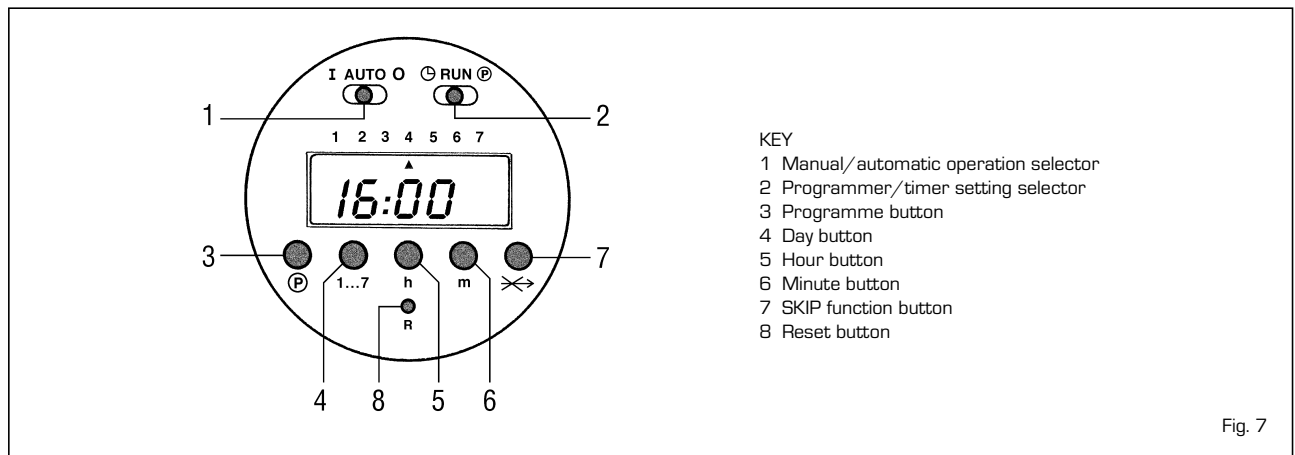

Fig. 7
- **Cancelling one or more programmes** (fig. 7)
- **Setting the "SKIP" function** (fig 7)